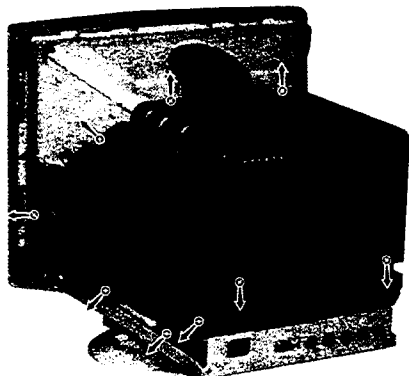

Figure 6-3
- 1) Position the metal shielding around the CRT. If so equipped, make sure the tabs are snapped in place. Replace the 14 screws. See figure 6-3